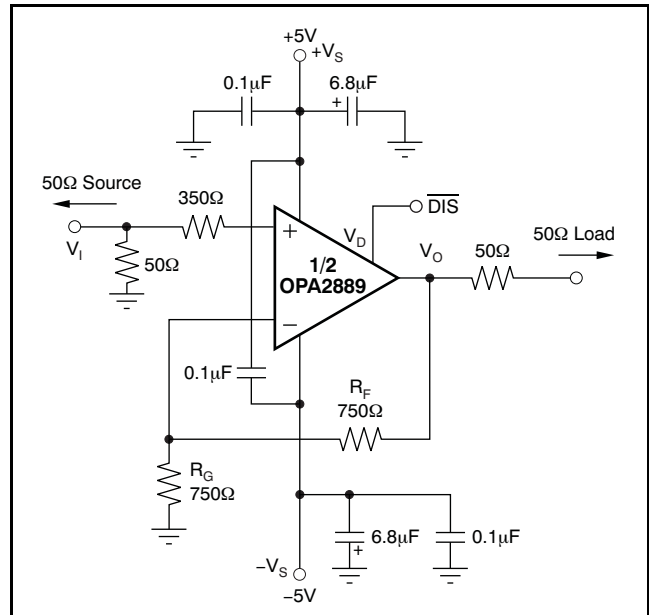
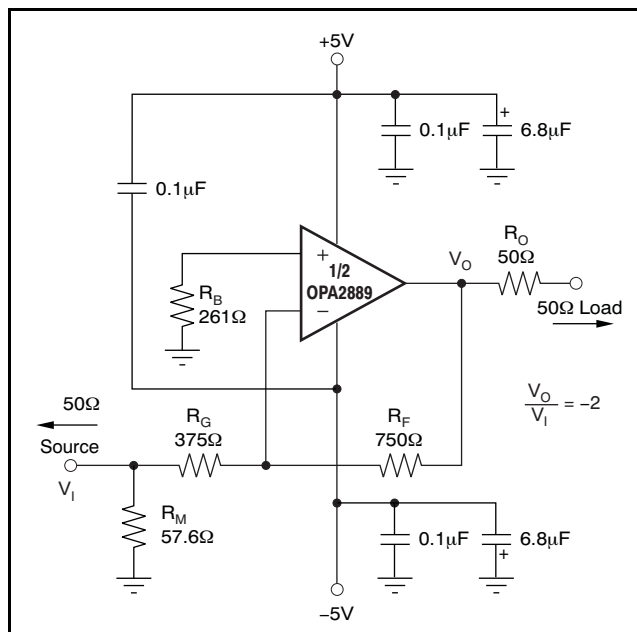

Figure 50. DC-Coupled, G = +2, Bipolar Supply, Specification and Test Circuit
Figure 60. Gain of –2V/V Example Circuit
At $T_A = +25^\circ C$, $G = +2V/V$, $R_F = 750\Omega$, and $R_L = 100\Omega$, unless otherwise noted. See Figure 50.
Figure 50 shows the dc-coupled, gain of +2V/V, dual power-supply circuit configuration used as the basis of the ±5V Electrical Characteristics and ±5V Typical Characteristics. This illustration is for one channel; the other channel is connected similarly. For test purposes, the input impedance is set to 50Ω with a resistor to ground and the output impedance is set to 100Ω. Voltage swings reported in the Electrical Characteristics are taken directly at the input and output pins, while output powers (dBm) are at the matched 50Ω load. For the circuit of Figure 50, the total effective load will be 100Ω || 1.5kΩ. The disable control line (MSOP-10 package only) is typically left open for normal amplifier operation. Two optional components are included in Figure 50. An additional resistor (350Ω) is included in series with the noninverting input. Combined with the 25Ω dc source resistance looking back towards the signal generator, this resistor gives an input bias current cancelling resistance that matches the 375Ω source resistance seen at the inverting input (see the DC Accuracy and Offset Control section). In addition to the usual power-supply decoupling capacitors to ground, a 0.1μF capacitor is included between the two power-supply pins. In practical printed circuit board (PCB) layouts, this optional-added capacitor typically improves the 2nd-harmonic distortion performance by 3dB to 6dB.
A good rule of thumb is to target the parallel combination of R_F and R_G (see Figure 50) to be less than approximately 400Ω. The combined impedance $R_F \parallel R_G$ interacts with the inverting input capacitance, placing an additional pole in the feedback network and thus, a zero in the forward response. Assuming a 2pF total parasitic on the inverting node, holding $R_F \parallel R_G < 400\Omega$ keeps this pole above 160MHz. By itself, this constraint implies that the feedback resistor R_F can increase to several kΩ at high gains. This increase in resistor size is acceptable as long as the pole formed by R_F and any parasitic capacitance appearing in parallel is kept out of the frequency range of interest.
Voltage-feedback op amps exhibit decreasing closed-loop bandwidth as the signal gain increases. In theory, this relationship is described by the Gain Bandwidth Product (GBP) shown in the Electrical Characteristics. Ideally, dividing GBP by the noninverting signal gain (also called the Noise Gain, or NG) predicts the closed-loop bandwidth. In practice, this principle only holds true when the phase margin approaches 90°, as it does in high gain configurations. At low gains (increased feedback factors), most amplifiers exhibit a more complex response with lower phase margin. The OPA2889 is compensated to give a slightly peaked response in a noninverting gain of 2V/V (see Figure 50). This compensation results in a typical gain of +2V/V bandwidth of 60MHz, far exceeding that predicted by dividing the 75MHz GBP by 2. Increasing the gain causes the phase margin to approach 90° and the bandwidth to more closely approach the predicted value of (GBP/NG). At a gain of +10, the 8MHz bandwidth shown in the Electrical Characteristics agrees closely with that predicted using the simple formula and the typical GBP of 75MHz.
The frequency response in a gain of +2V/V may be modified to achieve exceptional flatness simply by increasing the noise gain to 2.5V/V. One way to modify the response without affecting the +2V/V signal gain, is to add a 750Ω resistor across the two inputs, as shown in the circuit of Figure 50. A similar technique may be used to reduce peaking in unity-gain (voltage follower) applications. For example, by using a 750Ω feedback resistor along
The OPA2889 is a general-purpose, wideband, voltage-feedback op amp; therefore, all of the familiar op amp application circuits are available to the designer. Inverting operation is one of the more common requirements and offers several performance benefits. See Figure 60 for a typical inverting configuration where the I/O impedances and signal gain from Figure 50 are retained in an inverting circuit configuration.
In the inverting configuration, three key design considerations must be noted. The first is that the gain resistor (R_G) becomes part of the signal channel input impedance. If input impedance matching is desired (which is beneficial whenever the signal is coupled through a cable, twisted-pair, long PCB trace, or other transmission line conductor), R_G may be set equal to the required termination value and R_F adjusted to give the desired gain. This consideration is the simplest approach and results in optimum bandwidth and noise performance. However, at low inverting gains, the resultant feedback resistor value can present a significant load to the amplifier output. For an inverting gain of –2V/V, setting R_G to 50Ω for input matching eliminates the need for R_M but requires a 100Ω feedback resistor. This approach has the interesting advantage that the noise gain becomes equal to 2V/V for a 50Ω source impedance—the same as the noninverting circuits considered in Figure 60. The amplifier output, however, now sees the 100Ω feedback resistor in parallel with the external load. In general, the feedback resistor should be limited to the 200Ω to 1.5kΩ range. In this case, it is preferable to increase both the R_F and R_G values (see Figure 60), and then achieve the input matching impedance with a third resistor (R_M) to ground. The total input impedance becomes the parallel combination of R_G and R_M .
The second major consideration, touched on in the previous paragraph, is that the signal source impedance becomes part of the noise gain equation and influences the bandwidth. For the example in Figure 60, the R_M value combined in parallel with the external 50Ω source impedance yields an effective driving impedance of $50Ω \parallel 57.6Ω = 26.7Ω$. This impedance is added in series with R_G for calculating the noise gain (NG). The resulting NG is 2.86V/V for Figure 60, as opposed to only 2V/V if R_M could be eliminated as discussed above. Therefore, the bandwidth is slightly lower for the gain of –2V/V circuit of Figure 60 than for the gain of +2V/V circuit of Figure 50.
The third important consideration in inverting amplifier design is setting the bias current cancellation resistor on the noninverting input (R_B). If this resistor is set equal to the total dc resistance looking out of the inverting node, the output dc error, as a result of the input bias currents, is reduced to (Input Offset Current) × R_F . If the 50Ω source impedance is dc-coupled in Figure 60, the total resistance to ground on the inverting input is 402Ω.
The OPA2889 provides good distortion performance into a 200Ω load on $\pm 5V$ supplies. Relative to alternative solutions, it provides exceptional performance into lighter loads and/or operating on a single +5V supply. Generally, until the fundamental signal reaches very high frequency or power levels, the 2nd-harmonic dominates the distortion with a negligible 3rd-harmonic component. Focusing then on the 2nd-harmonic, increasing the load impedance improves distortion directly. Remember that the total load includes the feedback network; in the noninverting configuration (see Figure 50), this total is the sum of $R_F + R_G$, while in the inverting configuration it is just R_F . Also, providing an additional supply-decoupling capacitor ($0.1\mu F$) between the supply pins (for bipolar operation) improves the 2nd-order distortion slightly (3dB to 6dB). Operating differentially also lowers 2nd-harmonic distortion terms (see the plot on the front page).
Evaluating these two equations for the OPA2889 circuit and component values (see Figure 50) gives a total output spot noise voltage of 18.2nV/√Hz and a total equivalent input spot noise voltage of 9.1nV/√Hz. This total includes the noise added by the bias current cancellation resistor (350Ω) on the noninverting input. This total input-referred spot noise voltage is slightly higher than the 8nV/√Hz specification for the op amp voltage noise alone. This result is the case as long as the impedances appearing at each op amp input are limited to the
previously recommend maximum value of 400Ω. Keeping both ($R_F \parallel R_G$) and the noninverting input source impedance less than 400Ω satisfies both noise and frequency response flatness considerations. Because the resistor-induced noise is relatively negligible, additional capacitive decoupling across the bias current cancellation resistor (R_B) for the inverting op amp configuration of Figure 60 is not required.
The balanced input stage of a wideband voltage-feedback op amp allows good output dc accuracy in a wide variety of applications. The power-supply current trim for the OPA2889 gives even tighter control than comparable amplifiers. Although the high-speed input stage does require relatively low $\pm 0.75\mu A$ input bias current, the close matching between them may be used to reduce the output dc error caused by this current. The total output offset voltage may be reduced by matching the dc source resistances appearing at the two inputs. This matching reduces the output dc error resulting from the input bias currents to the offset current times the feedback resistor. Evaluating the configuration of Figure 50, and using worst-case +25°C input offset voltage and current specifications, gives a worst-case output offset voltage equal to: